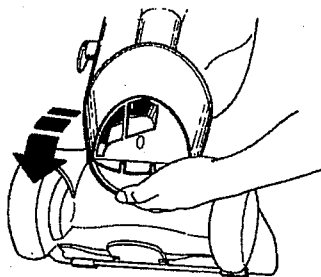

Figure 23
4. Turn the Knob on the Inspection Plate clockwise until it unlocks. (See Figure 23.)
6. Look up into the Air Passageway for any fluff or debris. (See Figure 23.)